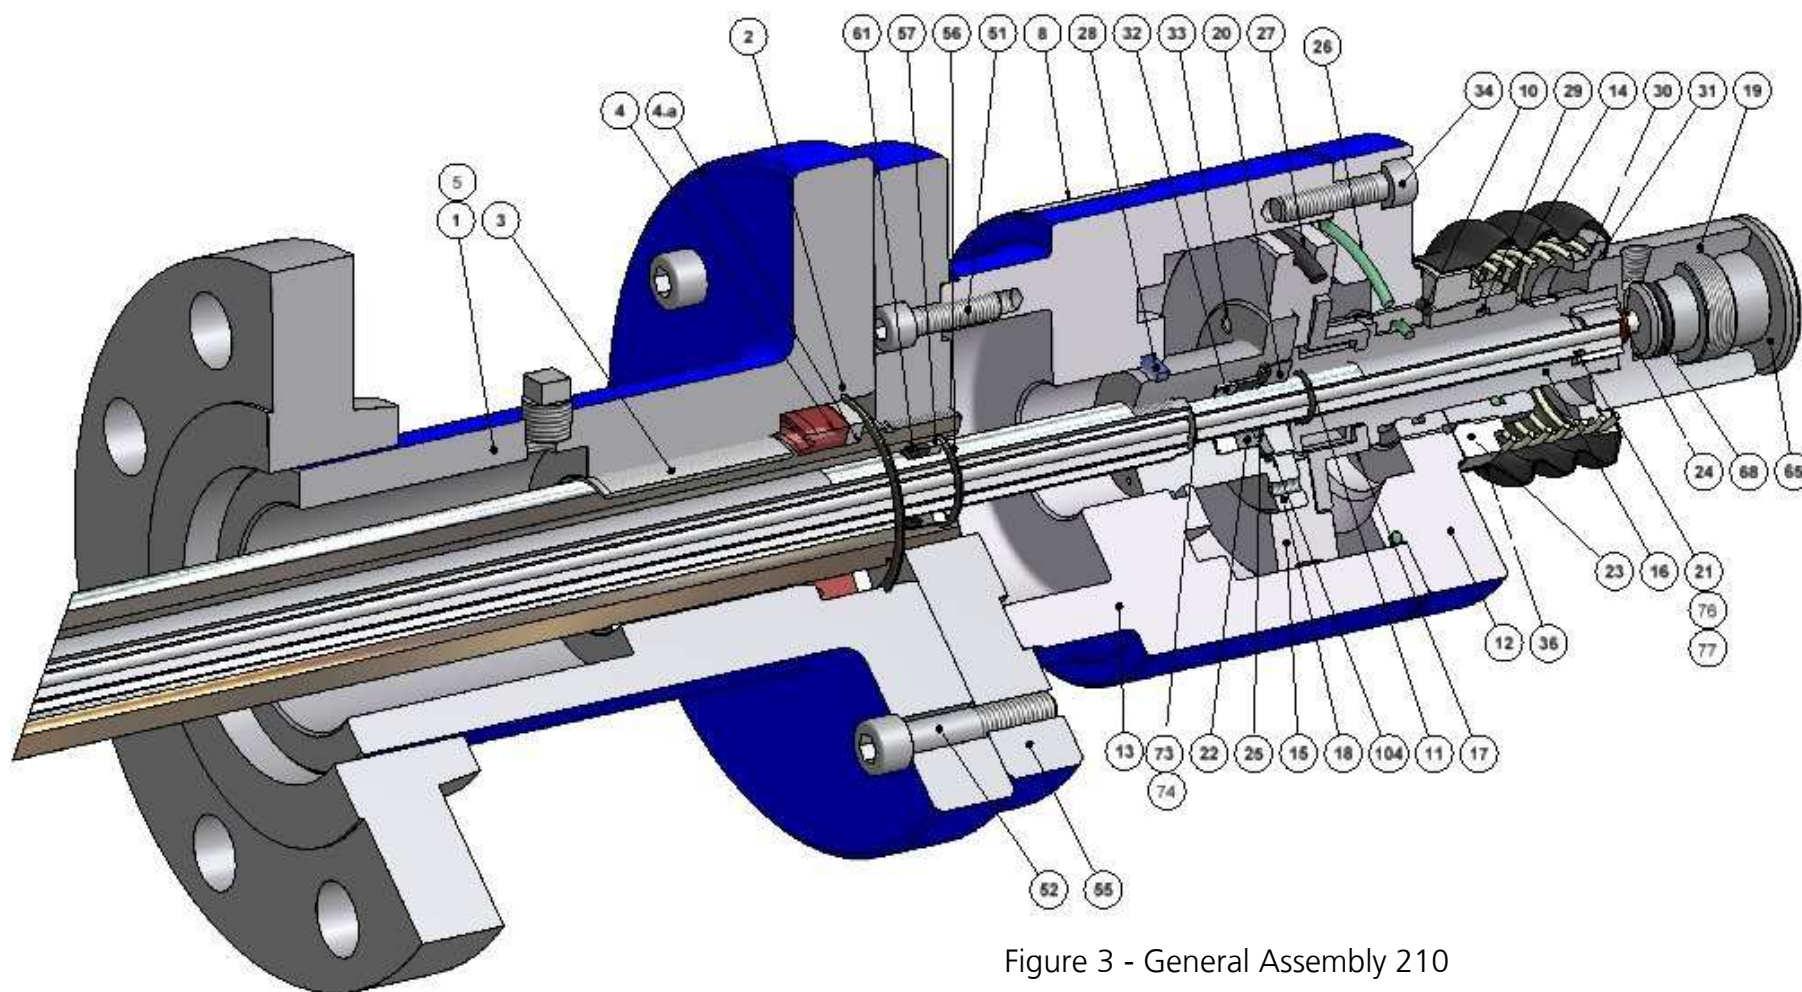

Figure 3 - General Assembly 210
In the idle, or de-energised state, air or hydraulic pressure is applied to the bottom of the Actuator Housing (Figure 3, Item 13) through Port 'B', holding the Capture Tube and the Sample Tube at the top of their stroke, and allowing the product to flow through the Probe Head (Figure 3, item 37).
When the external Sampler Solenoid is energised (Figure 11, page 15), it applies air or hydraulic pressure to Port 'A', onto the top of the Piston (Figure 3, item 15) while venting the pressure from the underside to atmosphere. The pressure on the Piston moves the Capture Tube (Figure 3, item 92) trapping a sample of product inside the Capture Tube in the void between the Sample Tube (Figure 3, item 94) and the End Plug.
Continuing downward motion pushes the Catchplate (Figure 3, Item 17) against the Sample Tube Actuator (Figure 3, item 16), moving the Sample Tube down with the Capture Tube and forcing the trapped sample through the centre of the Sample Tube past the Check Valve Tip (Figure 3, Item 91). The sample is then expelled from the Sample Outlet Port in the Sample Tube Head (Figure 3, Item 19) through the external Check Valve to the sample receptacle.
When the Sampler Solenoid is de-energised, air is vented from the top side of the Actuator Piston and applied to the underside of the Piston, moving the Capture Tube and Sample Tube away from the End Plug, whereupon an vacuum Breaker (Figure 3, Item 44) incorporated in the End Plug momentarily opens to relieve the vacuum created in the void between Sample Tube and End Plug.
210 Standard Bill of Materials (Figure 3 & 3)